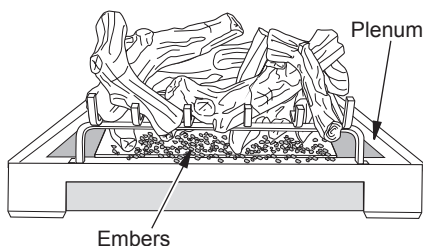

Figure 42 - Placing Ember Material on Burner
3. While holding glass door to prevent it from falling and causing injury, remove five screws from hinge located on left side of door frame assembly (see Figure 42).
1. Pull ember material apart into pieces no larger than a dime. Place these pieces loosely and sparingly directly onto exposed front section of burner (see Figure 42). This will create the glowing ember appearance as flame touches ember material. Do not block air slots by using too much ember material in one area. Place small pieces of ember material to cover pilot ports. It is not necessary to use all of the ember material provided.